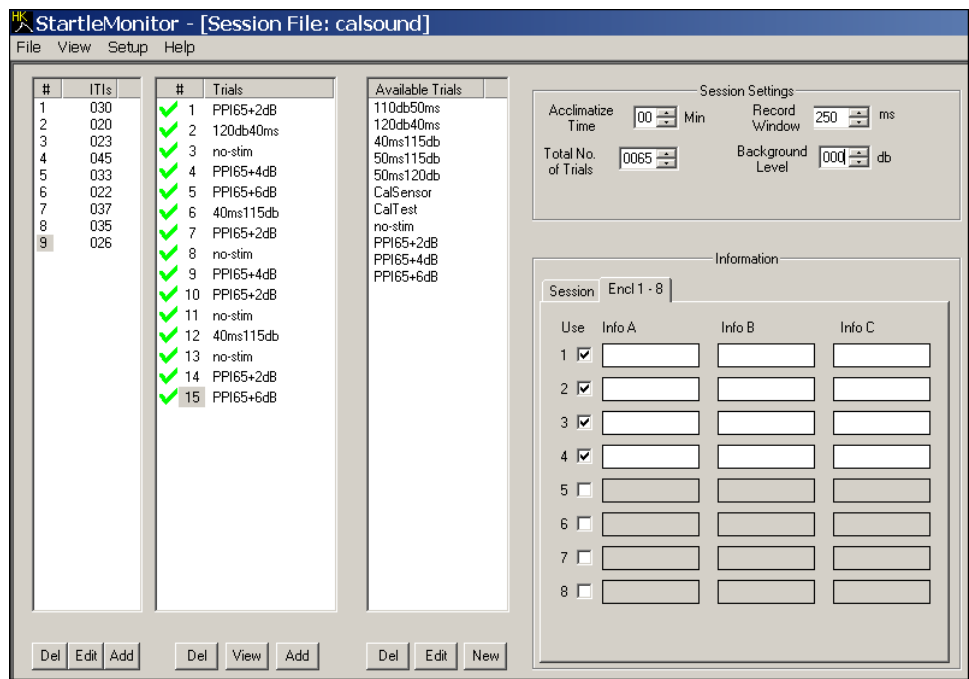

Figure 88 Pre-Pulse Inhibition (PPI) Trial Editing Screen Example
i.e., trials with no stimulus at all but would contain an analog recording and additional trials with basic acoustic startle trials, e.g., 115 dB 40 ms white noise only trials. Figure 88 is an example of how a typical PPI session might look.